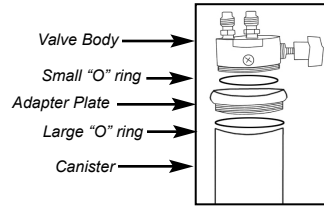

Fig 2.
- 3A. Remove and replace the large "O" ring (between canister and adapter plate) with new one supplied in kit (See Fig 2.)
- 3B. Replace small "O" ring (between valve body and adapter plate) (See Fig 2.)